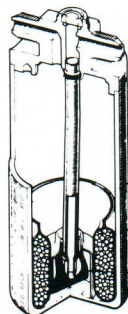

Figure 215-4
**Receiver/dryer** (Figure 215-4): This component acts as a storage device for liquid freon. It also contains a filter and a desiccant, which is a material that absorbs any water mixed with the freon. Usually, the receiver/dryer also contains a sight glass at the outlet which allows us to see the freon flowing out of it and to the expansion valve.